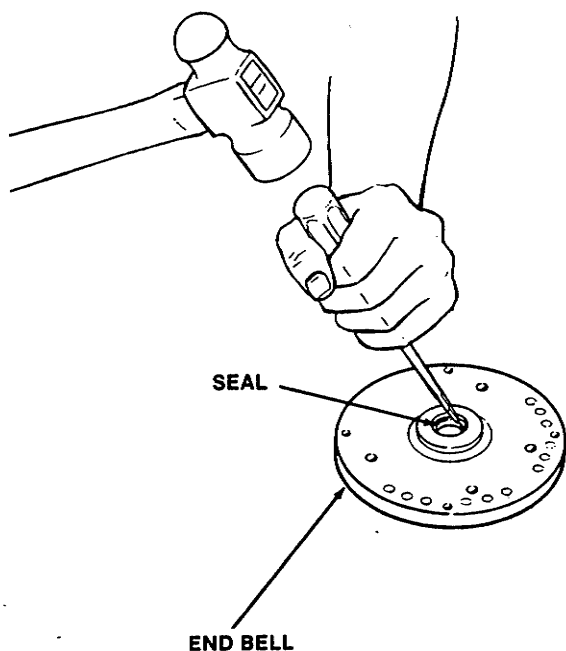

Figure 58. Removing Seal from End Bell
6. Using a common screwdriver and a hammer, tap the old seal out as shown in Figure 58.